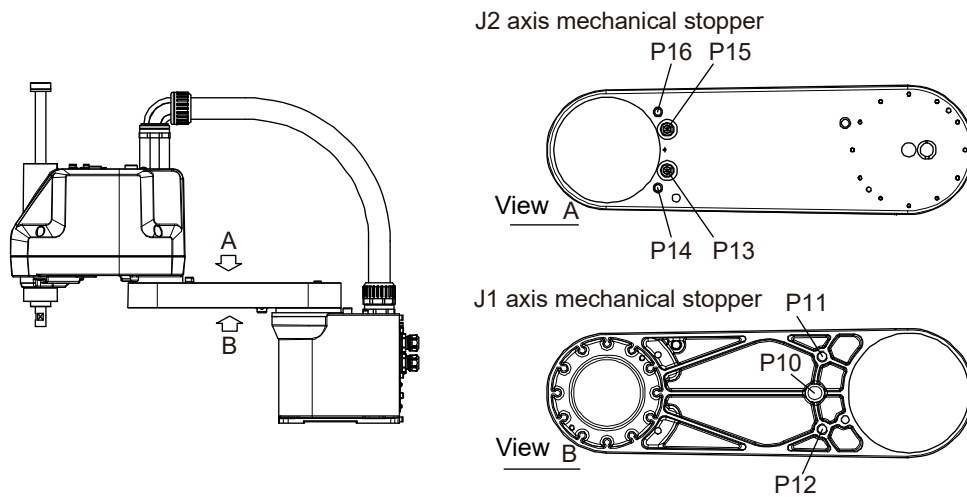

Fig.3-1:Mechanical stopper position
Note1) Refer to Fig. 3-1 for the mechanical stopper position.
- 2) Refer to Table 3-1 and Fig. 3-1, and install the stoppers in the screw holes at the angles to be set. Fig. 3-1 shows the mechanical stopper positions. When the screw holes are hidden under the arm, slowly move the No.1 arm by hand.